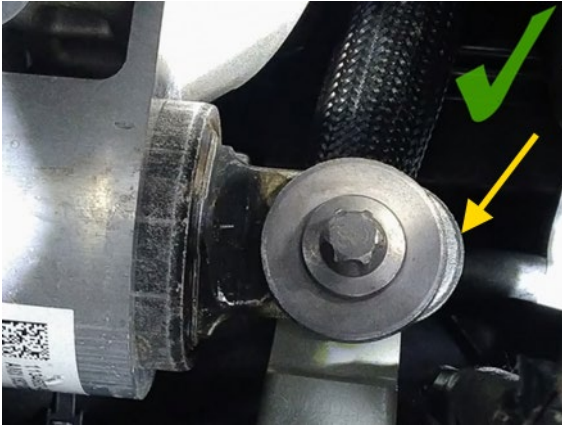

Figure 5
- If the clevis is visible past the front edge of the foremost washer (Figure 5), the clevis does not require repositioning; skip to step 3.
- c. Position a prybar between the clevis and body (Figure 8), and then pry the clevis towards the front of the vehicle until the clevis is visible past the front edge of the foremost washer (Figure 5).
**NOTE:** Make sure the clevis remains visible past the front edge of the foremost washer (Figure 5).